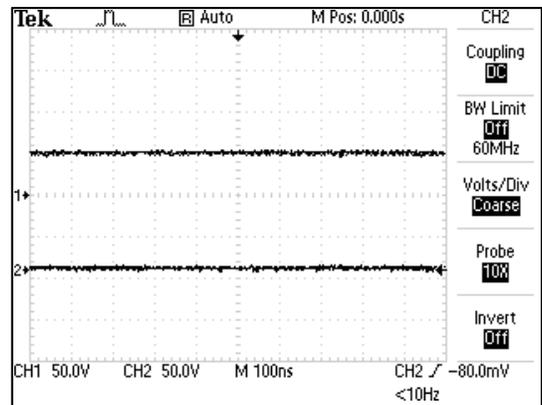

Figure 5.10
I. GALVANIC: CONTINUOUS(Figure 5.10)